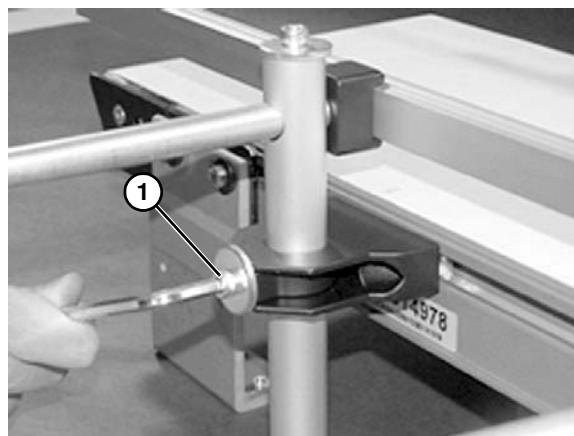

Figure 36
7. Adjust rail height with lower screw (**Figure 36, item 1**).